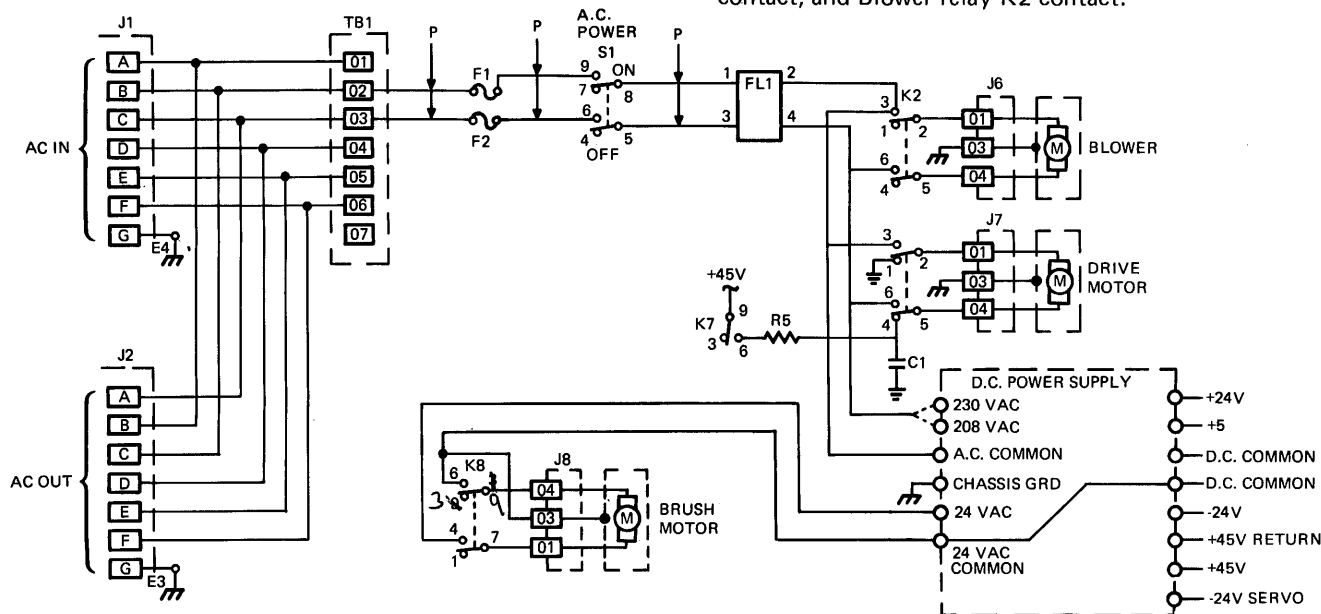

Figure 3-3. Ac Power Distribution
To initiate a power-up sequence, the controller supplies 208/230-volts, 3-phase, 60Hz ac power (50Hz optional) in parallel to all drives. Each drawer uses only two phases of the three phase power, and phases are rotated between drawers as well as between drives to balance line power. Figure 3-3 shows the ac power distribution.
The then closed contacts of Drive Motor Relay K5 (Figure 3-3) provide ac power to the disk drive motor.
- The closed contacts of relay K8 (Figure 3-3), provide ac power to the brush motor and the disk pack cleaning cycle starts